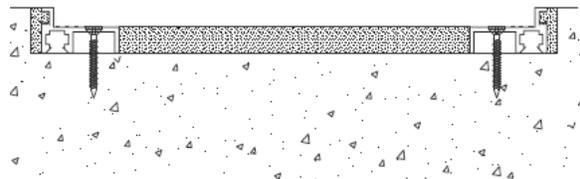

Figure 9
STEP 14. When the frame installation is complete, fill the recess bed inside the frame and any gap between the outside of the frame and the surrounding concrete with non-shrink grout (see Figure 9). The grout must be level with the top of the substrate and with the appropriate surface of the frame.